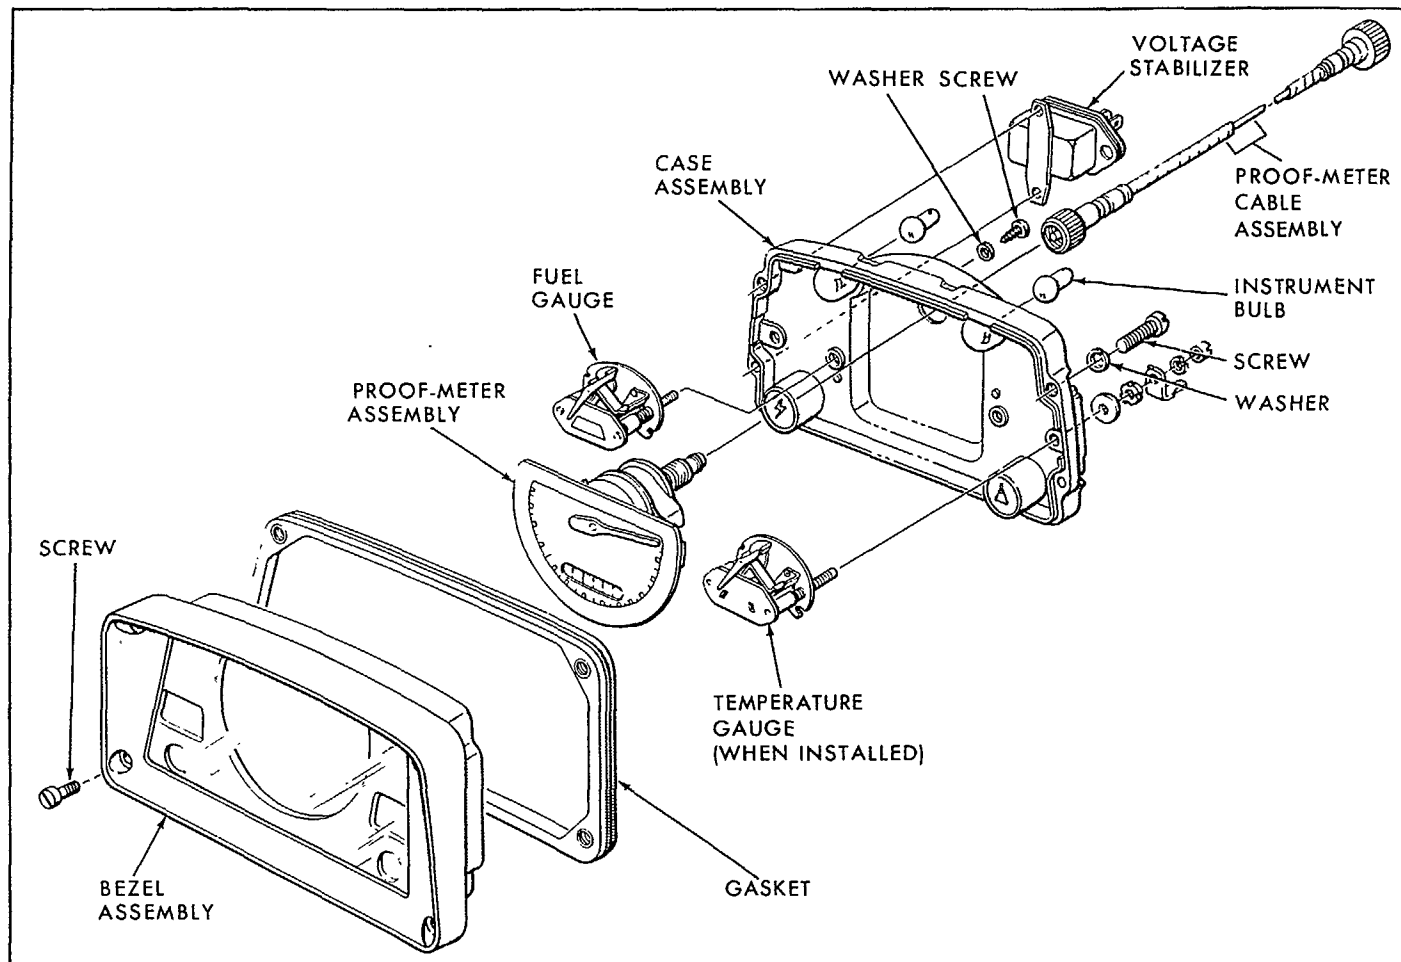

Figure 9
- Remove the four screws and lock washers, Figure 9, which retain the case assembly to the bezel assembly.
- Attach the constant voltage stabilizer, Figure 9, to the case assembly. Secure tightly with the two screws and lock washers.